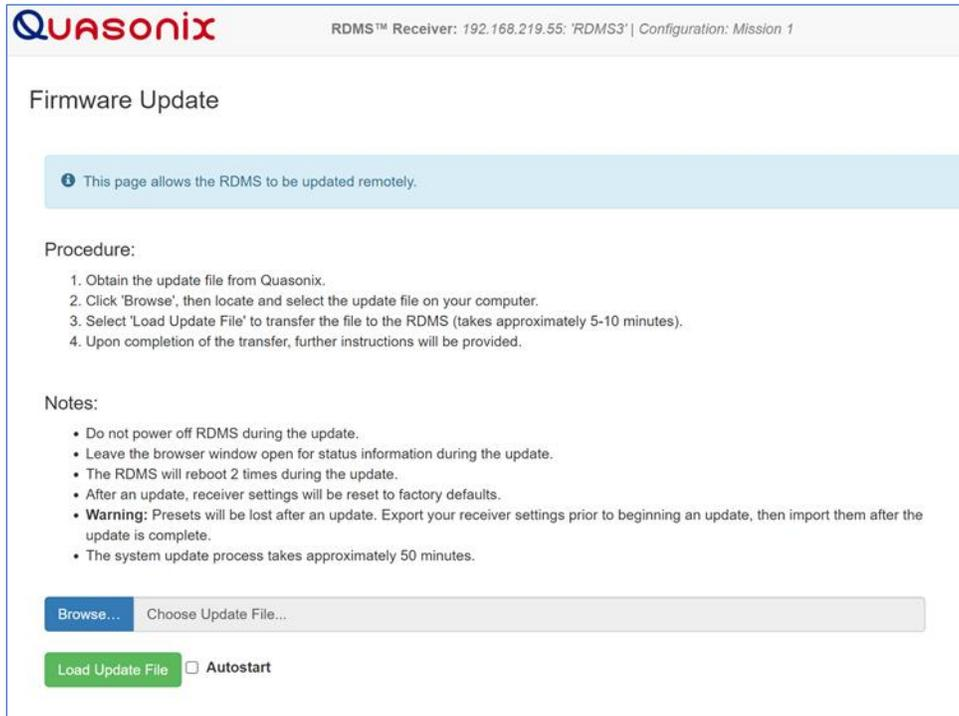

Figure 140: Firmware Update, Procedure and Notes
4. On the Firmware Update screen, review the Procedure and Notes, as shown in Figure 140.